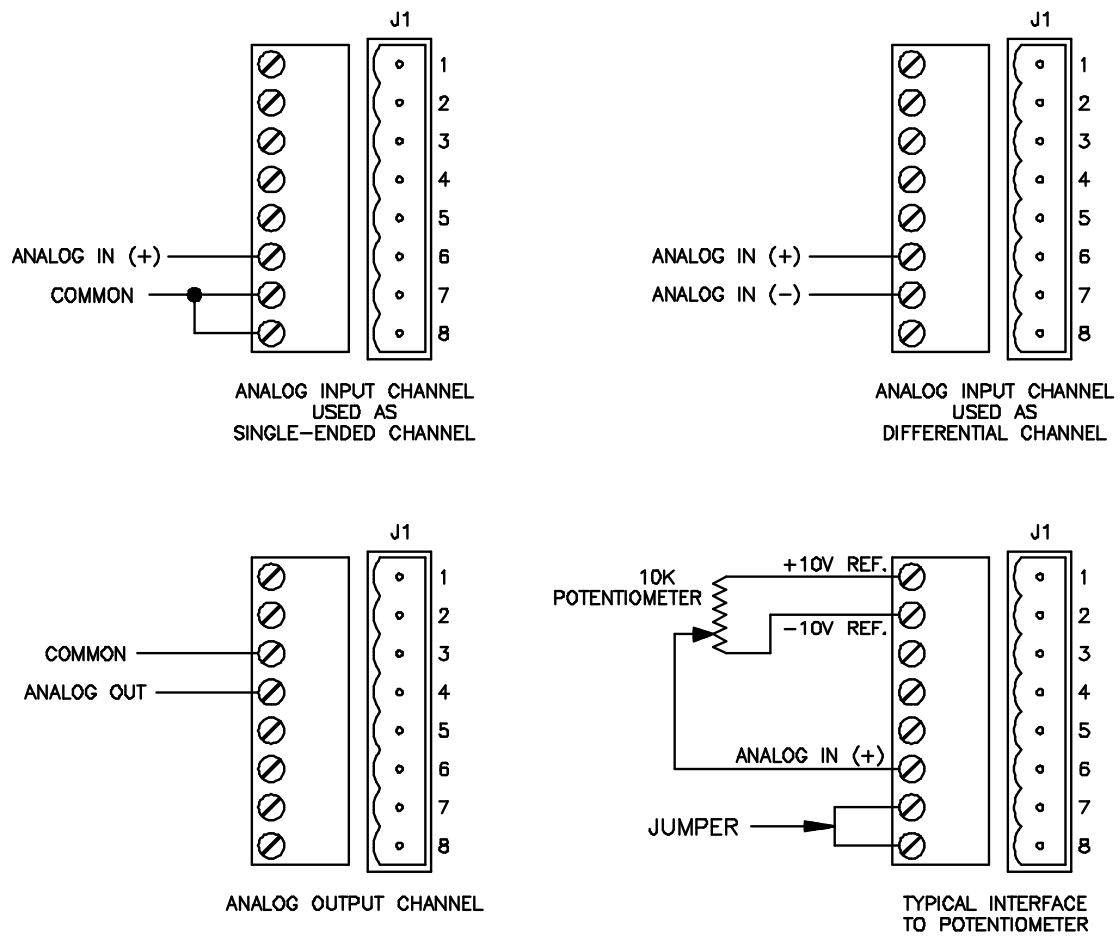

Figure 2.11 - Typical Analog Input/Output Channel Connections
- b. Connect any analog input, or analog output to the other end of the connector cable (refer to **Figure 2.11**).
- c. If a potentiometer input is to be used, connect the potentiometer to the cable as shown in **Figure 2.11**.